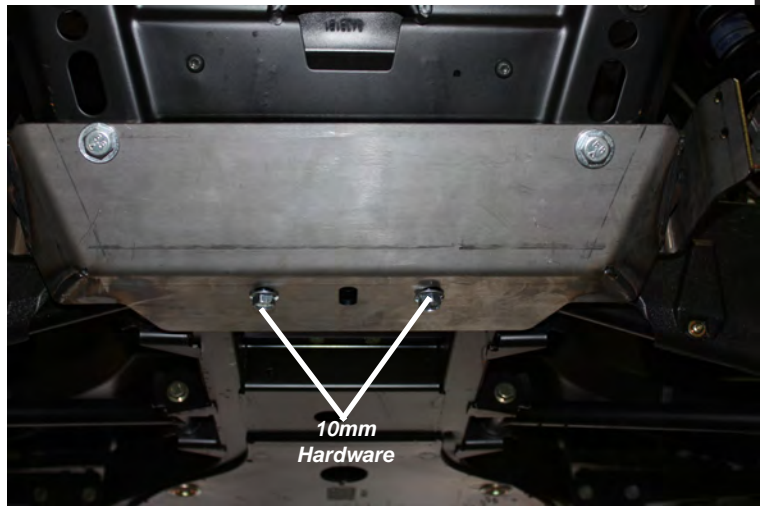

Figure 2
2. Secure mount to bottom skidplate of vehicle using 10mm hardware as shown in Figure 2. Do not tighten hardware at this time.